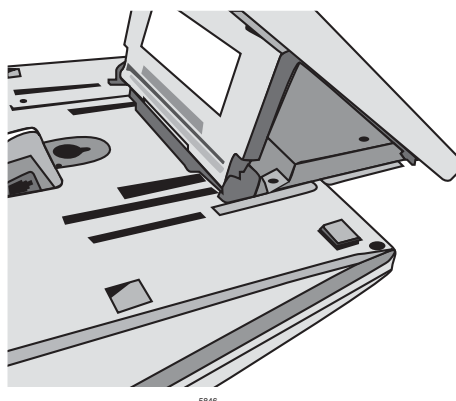

Figure 7-18 Slide Tilt Stand into Address Tray Slot
4. Slide the Tilt Stand into the former Address Tray holder. (The Stand should catch under the front tray holder notches.) Push Stand in until it snaps into place (see Figures 7-18 and 7-19).